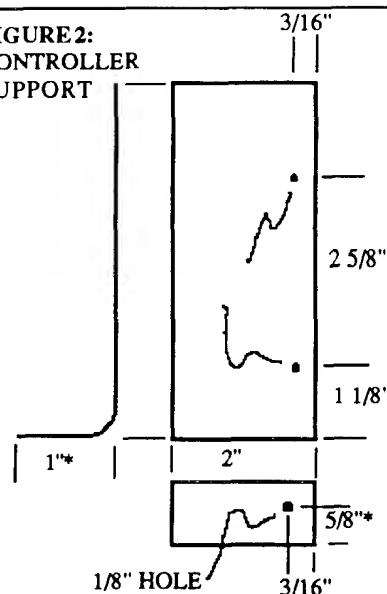

FIGURE 3: GROUND PLANE HOLES
13) Place the groundplane temporarily in the computer. Line the CoCo motherboard up with the holes in the back. Mark where the RGB connector needs to pass through the groundplane and cut a hole for the connector pins. I used a pair of shears and cut a notch from the side. Holes need to be drilled or punched where the cartridge connector and the 5V regulator are (fig. 3).